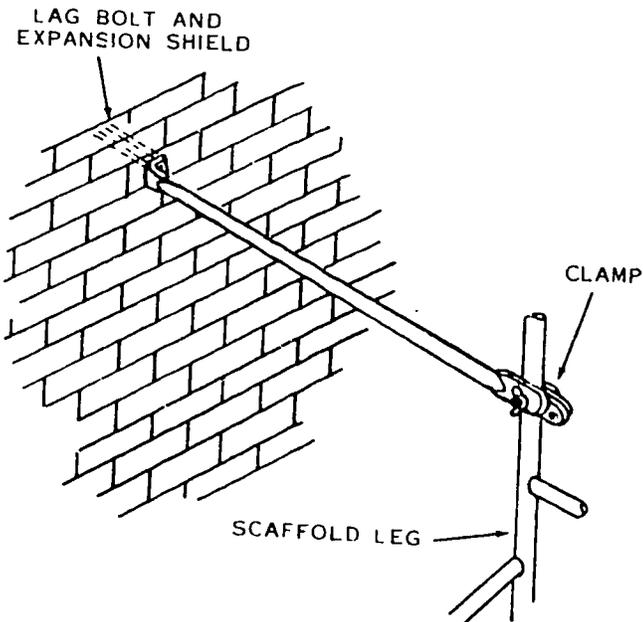

FIGURE 12. Building tie-in
f. Sectional steel scaffolding can be constructed as high as required, but scaffolding over three sections high must be secured to the structure. One method of fastening it to the structure is shown in Figure 12. The top section must always be equipped with a guard rail and toeboard. The guard rail prevents workmen from falling, and the toeboard keeps tools and materials from falling on other workmen.